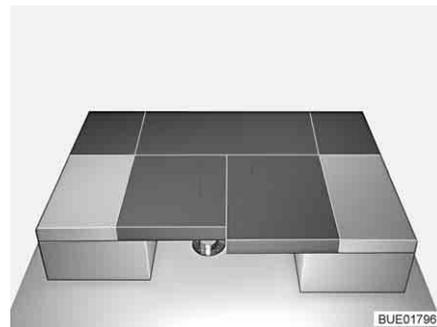

Fig. 102 After conversion
- Press the two seat cushions between the back cushions (see Fig. 102).